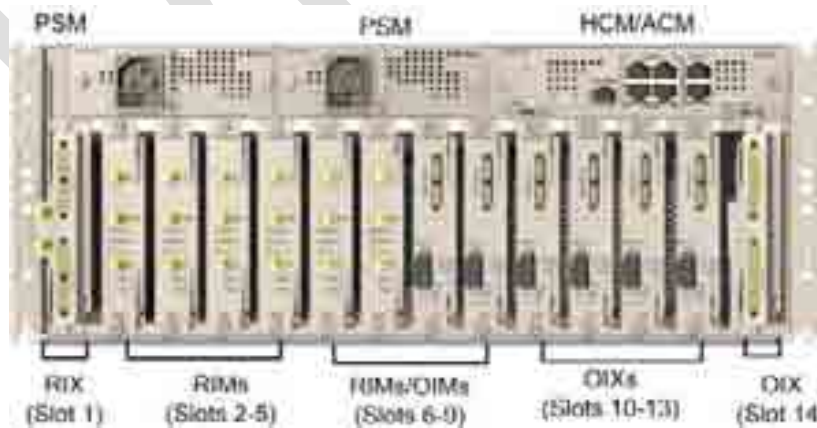

Figure 5-48. IHU (Shown Without Cable Management Tray)
1. Refer to Figure 5-48 for module locations. Remove blank panel and slide in the relevant module (chassis slots are 100% mistake proof) according to Table 5-7: